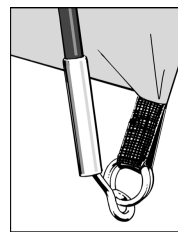

Figure 1.
1. Locate one end of each pole onto the corresponding metal pin. The metal pin inserts into the hollow metal ferrule on the end of each pole. **(See Figure 1).** Push the pole into a curve from the opposite side, one at a time, and locate all pole ends onto the metal pins.